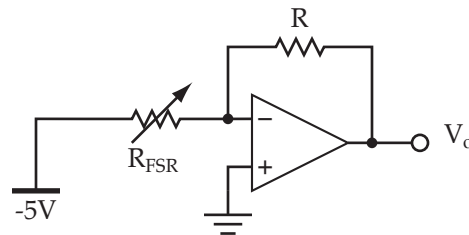

Figure 3: FSR amplifier 2
2. For the circuit in figure 3, if we want V_0 to go from 0 volts to 5 volts as the applied force goes from 0 kg to 1 kg, what value should R be?
3. For the value of R you chose in (2), please plot, overlaid on your graph from (1), V_0 against force for the circuit shown in figure 3.